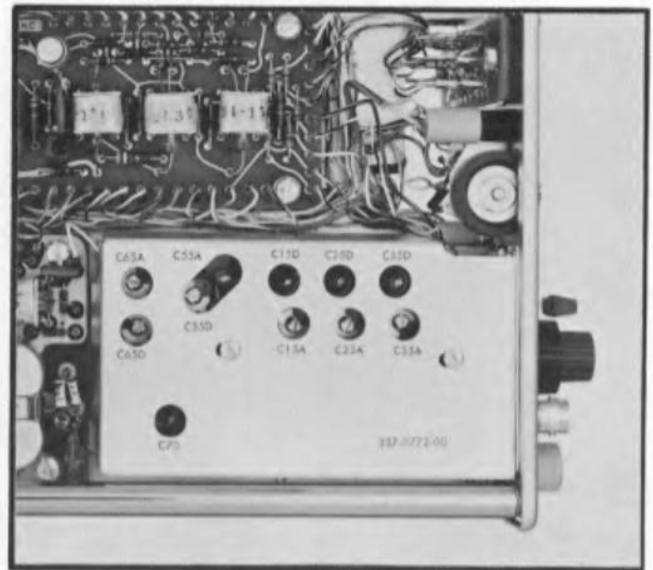

Fig. 6-15. Location of attenuator and input capacitance adjustments.
c. Use item 19 of Equipment Required, and adjust C70 (attenuator adjustment locations shown in Fig. 6-15) so there is no spike, rounding or rolloff of the display. Use a time base sweep rate of 1 msec/div to obtain a display with the proper resolution. Set the sweep rate back to 0.1 msec/div.